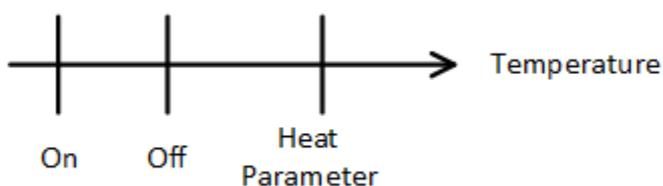

Figure 41: On Temperature above the Target
- Figure 41 shows a scenario in which the On Temperature is above the Target Temperature. Heaters remain on until temperatures rise to the Heat Parameter. This scenario would be used in situations where the animals need extra heat.